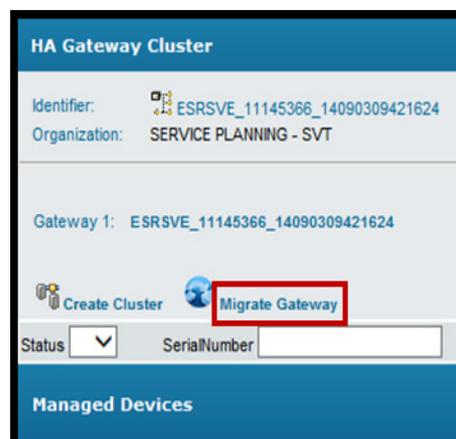

Figure 137 Selecting Migrate Gateway
- Click **Migrate Gateway**, as shown in Figure 137 on page 115.